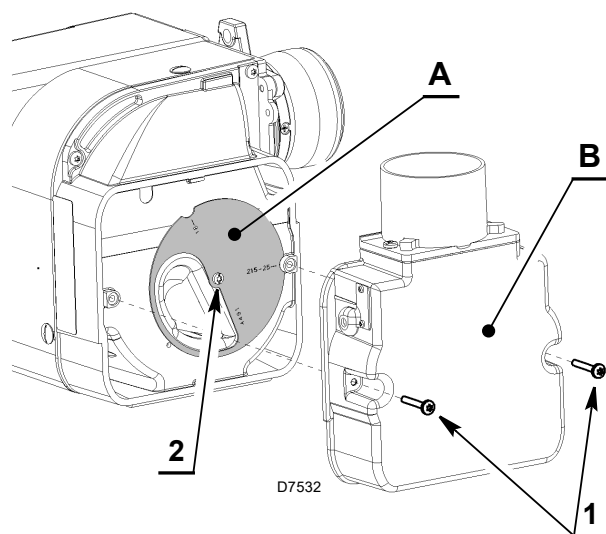
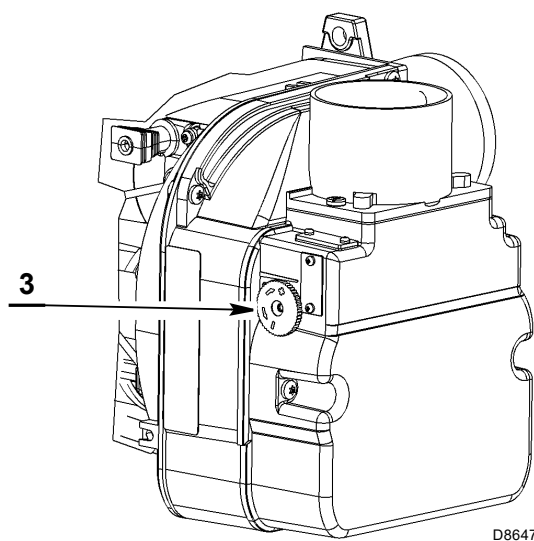

Fig. 18
Fig. 19
The air setting is performed by mean of two independent dampers (see Fig. 18 and Fig. 19).
- remove the secondary air damper B)(Fig. 18) loosing the screws 1).
Tuning of this device is possible acting of the screw 3)(Fig. 19).